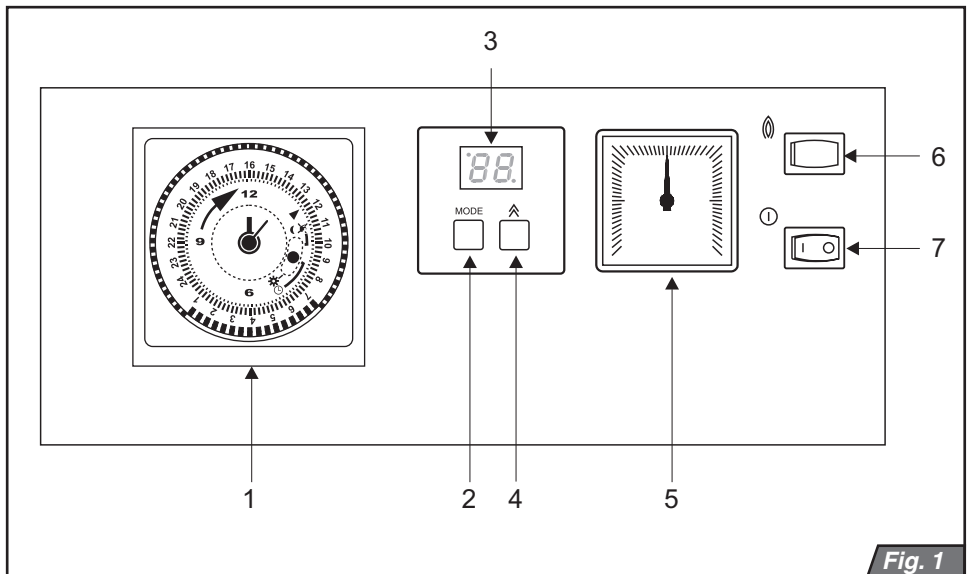

Fig. 1
The main switch (Fig. 1, Position 7) is used to switch the boiler on or off. The main switch is situated on the right side of the boiler control panel.
The control panel has the following control elements (Fig.1):
Pressure of heating water in the boiler is displayed constantly on the analogue pressure gauge (fig 1, position 5).
Press the RESET button (fig. 1, position 6) to unblock the fault. If the fault persists call an authorised service.
Turn the main switch (Fig. 1, position 7) to the ON position (I). The boiler is ignited and heats the hot water in the tank. After this has been heated, the boiler heats the water in the heating system – if the heating water temperature is set and a command for heating is sent from the regulator.
Unblock the boiler by pressing the RESET button (fig 1, position 6). If the emergency shutdown recurs after a short time again, or if the boiler cannot be unblocked by pressing the RESET button, call an authorised service organisation.